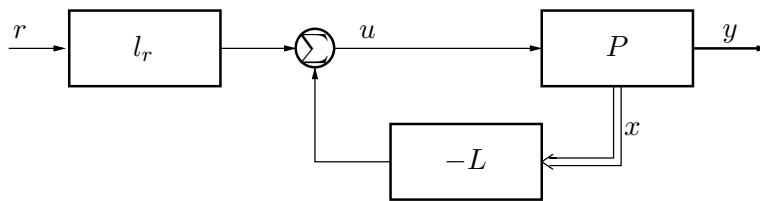

Figure 8.1 The system in Problem 8.4.
8.4 Consider the block-diagram in Fig. 8.1. This is an illustration of the state-feedback scheme. Determine a control law $u = l_r r - Lx$ for